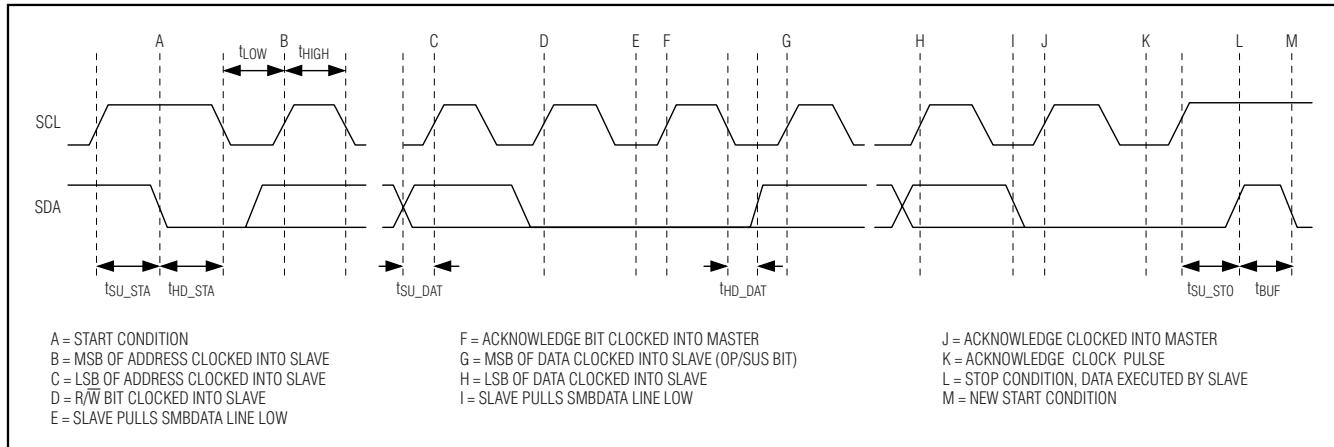

Figure 2. Definition of Timing for I²C Bus
used. Figure 2 shows a timing diagram for the I²C protocol. The MAX8647 is a slave-only device, relying upon a master to generate a clock signal. The master (typically a microprocessor) initiates data transfer on the bus and generates SCL to permit data transfer. A master device communicates with the MAX8647 by transmitting the proper 8-bit address (0x9A) followed by the 8-bit control byte. Each 8-bit control byte consists of a 3-bit command code and 5 bits of data (Table 1). Each transmit sequence is framed by a START (A) condition and a STOP (L) condition (Figure 2). Each word transmitted over the bus is 8 bits long and is always followed by an ACKNOWLEDGE CLOCK PULSE (K). The power-on default settings for D4 to D0 are all 0, which indicates that all LED_{_} are off.